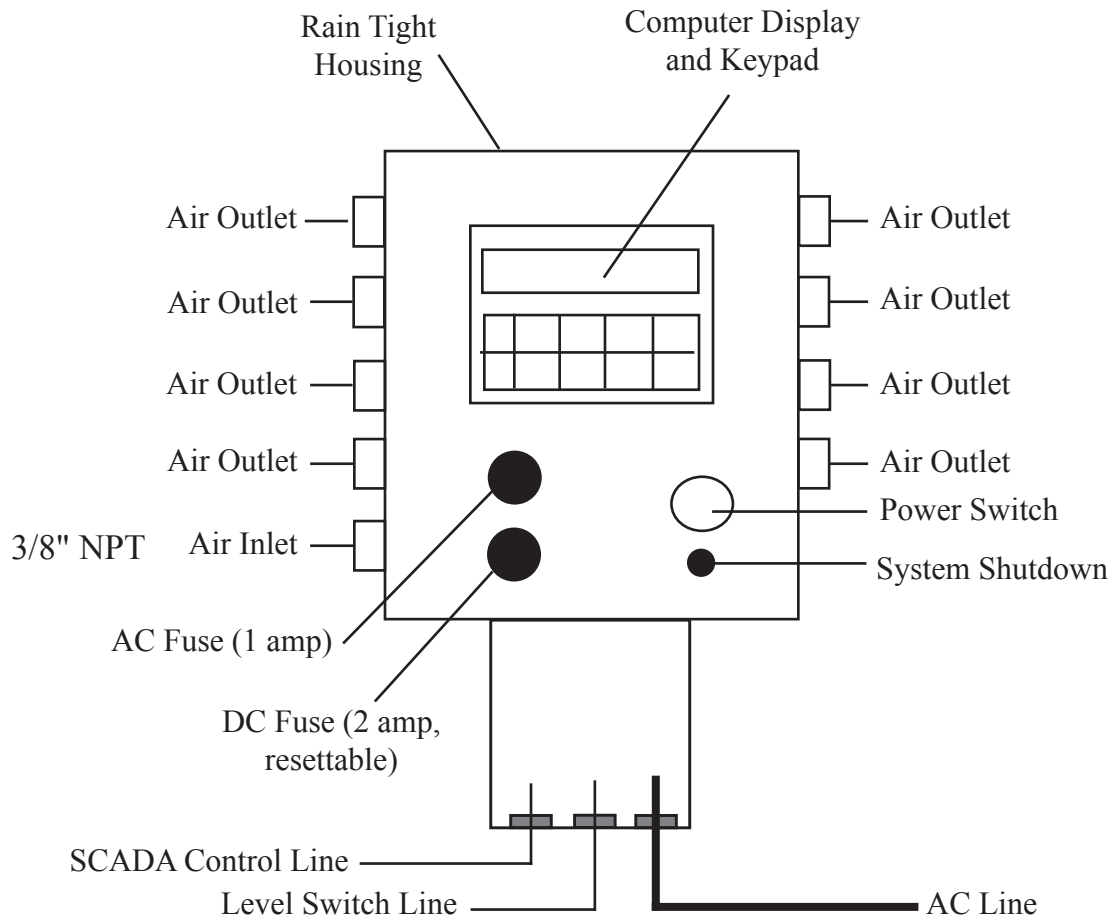

Figure 6
STEP 2. If a SCADA Controller is present on the site and you wish to have the SCADA be able to shut down our groundwater pumps, attach a two conductor communication cable from the 5016 Controller's junction box (Figure 6) over to the existing SCADA Controller. This communication cable will allow the SCADA computer to automatically turn off all groundwater pumps when necessary. **NOTE:** The SCADA needs to provide the 5016 Controller with a normally CLOSED dry contact switch signal.
STEP 3. Attach a AC 120 volt power source to the controller (Figure 6). Turn on the controller power switch. If the red "Tank Full" light comes on, you have a problem with the SCADA shutoff wiring. Turn off the power switch and recheck the SCADA control switch and wiring. If the light continues to stay on call the factory.